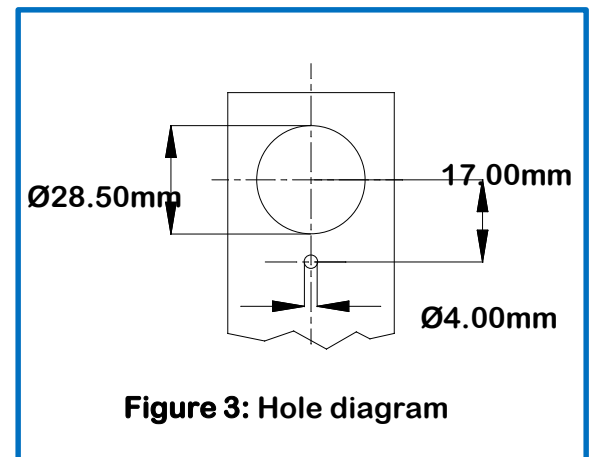

Figure 3: Hole diagram
- c) **Mounting Bracket:** A special mounting bracket may need to be fabricated to hold the Sensor in place. A CS-6000 Clamping Sleeve is typically provided with each PCS-100 System. If a special bracket is required, please refer to the machining specs shown in Figure 3.